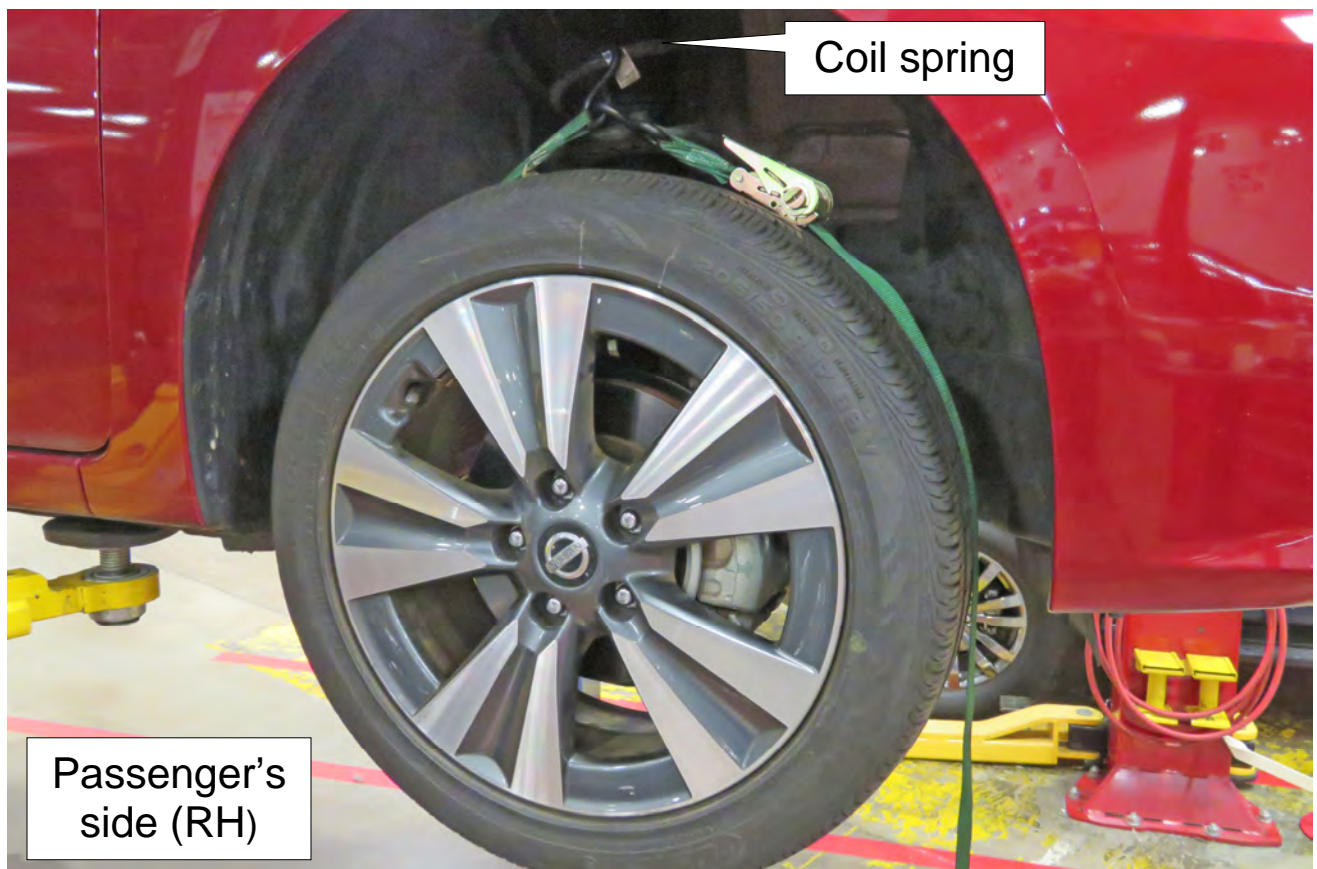

Figure 1C
1. Secure the passenger's side (RH) front wheel with a suitable strap.
- a. Connect the first hook of the strap to the coil spring as shown in Figure 1C.
- c. Tighten the strap sufficiently to keep the Passenger's side (RH) front tire from rotating but do not overtighten.